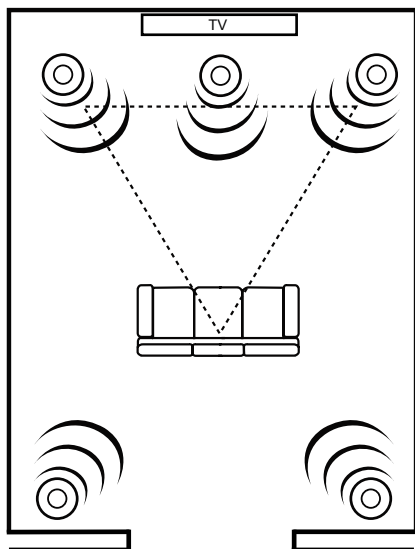

Figure 1
The ACLCR6C speakers are specifically designed to be mounted in the ceiling as front channel Left, Center, and Right home theater speakers (Figure 1). The ACLCR6C can also be installed for Rear channel sound where conventional in-wall or floor speakers cannot be used (Figure 2). The ACLCR6C can also be used as a single center channel speaker, or in conventional stereo pairs.
Plan your speaker placement carefully. Make certain that electrical, plumbing and any other services will not interfere within the ceiling where you plan to install your speakers. The speakers should be located so that they provide even coverage at your listening position. The distance between the speakers should not be greater than the distance from the speakers to the listening position (See Figure 1). If the room's dimensions or furniture placement prevent adhering to this requirement, the tweeters in the ACLCR6C speakers can be swiveled to aim them at the desired listening position.
**Installation Tip!** Note that the speaker is set in the frame at an angle so that the cone can be directed toward the listening position. Ensure the cone of the speaker is angled toward the listening position before proceeding to the next step. This is easily done by rotating the speaker until the optimum angle is achieved, typically a direct line of sight to the listener (Figures 1 and 2).